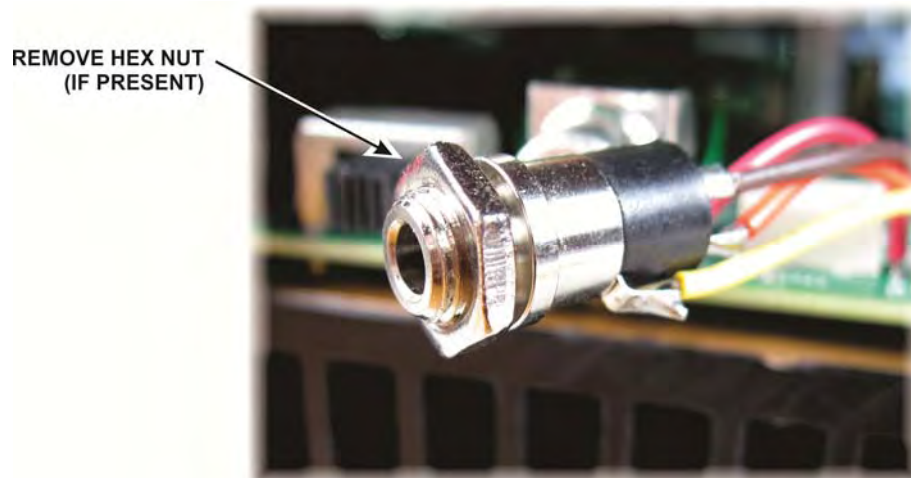

Figure 13. Hex Nut on Small Socket.
- ☐ Locate the small connector attached by leads at one end of the amplifier. Check to see if it has a hex nut threaded on it (Figure 13). If so, remove it. You'll use the nut to secure the connector to the rear panel later.